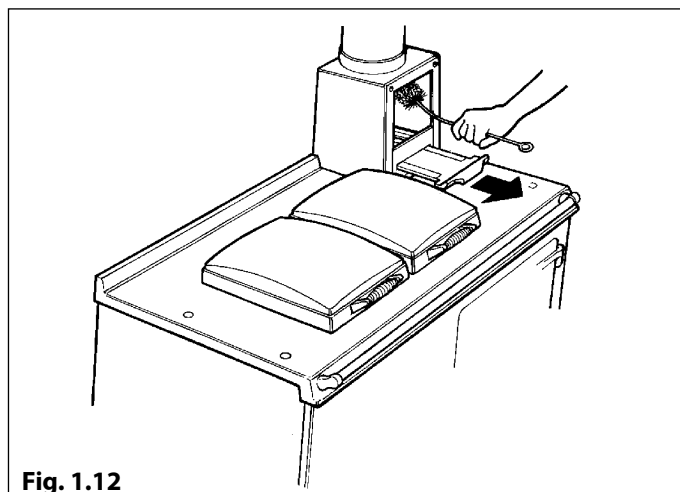
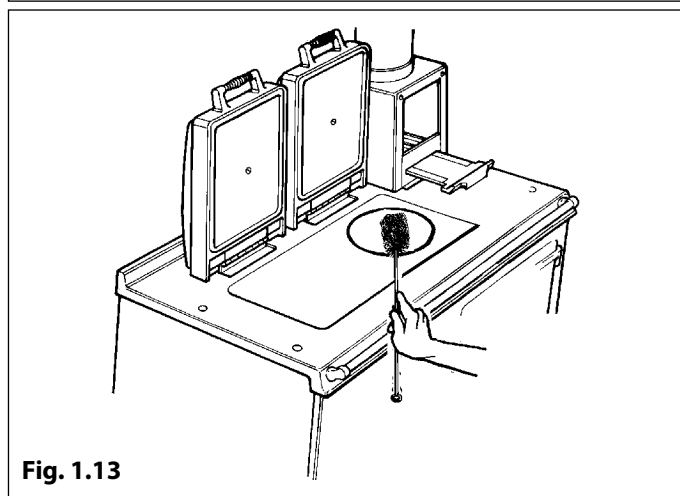
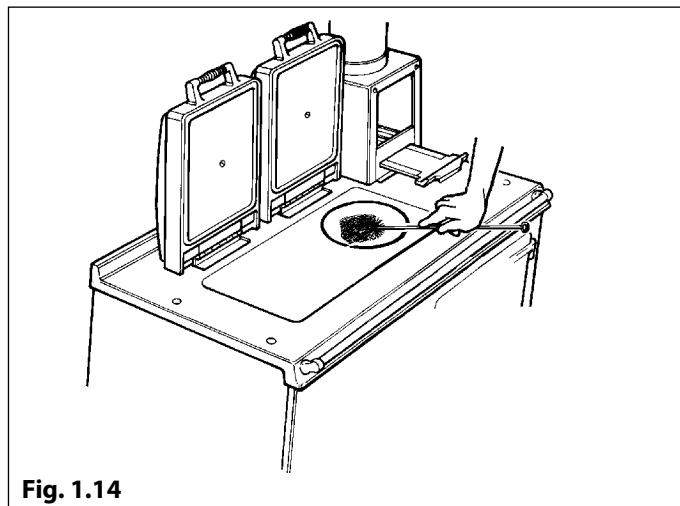

Fig. 1.12
Fig. 1.13
Fig. 1.14
2. Insert wire tool into locating sockets of grate frame (**Fig. 1.14**) lifting hand holding end upwards until grate frame is free of its supports. Taking the weight of the grate frame, gently lower front of grate assembly until it rests on ashpit bottom plate.
The use of coal may call for weekly cleaning. The procedure is illustrated in **Fig. 1.12**, **Fig. 1.13** and **Fig. 1.14**.
Allow the fire to burn out, or it may be done with a low fire. Open the chimney damper to its maximum. Remove the flue chamber cleaning door. Brush the soot from the flue pipe, letting it fall on top of the oven. Remove the plug from the hotplate, rake the deposits forward, and push into the firebox (**Fig. 1.13**). Replace parts removed. Riddle the bottomgrate thoroughly, clear the ashpit and relight the fire.